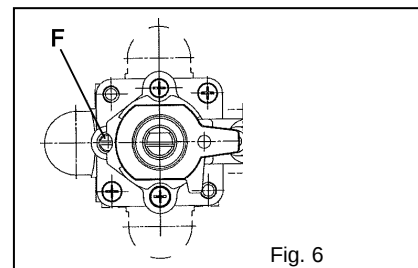

Fig. 6
5.5 Adjusting the minimum (Fig. 6)